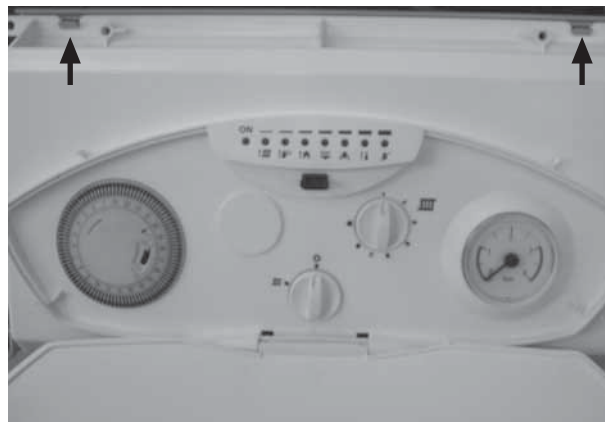

Figure 34
- Remove interface cover by lifting two latches. (figure 34)